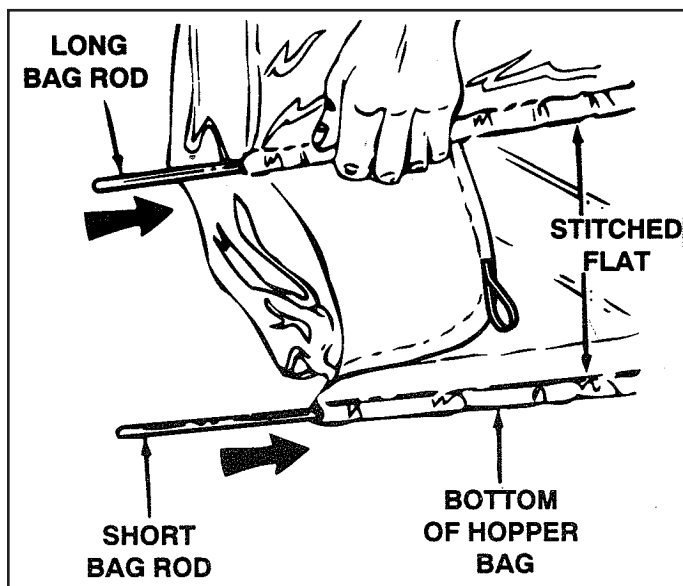

FIGURE 4
5. Slide the long bag rod (28-1/2" long) through the stitched bag flap on the top of the hopper bag as shown in figure 4.
6. Slide the short bag rod (25-1/2" long) through the stitched bag flap on the bottom of the hopper bag as shown in figure 4.